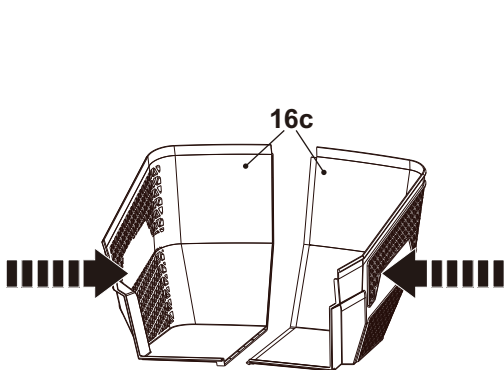

Fig. 4
1. Align the front ends of two bottom cases (16c) of the grass catcher (16). Clip the two bottom cases (16c) together starting at the front (Fig. 4).